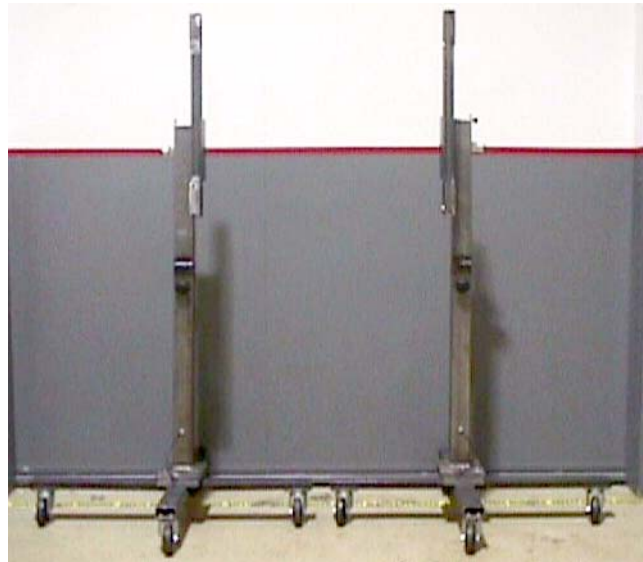

Figure A-7 Front Cover left and right Fully Assembled
- 4.) Assemble second dolly. Both look similar as in Figure A-7. However the stand portion of the dollies are side specific. The “Right” dolly has the locking pin for cover rotation. The “Left” dolly does not have a cover rotation locking pin.